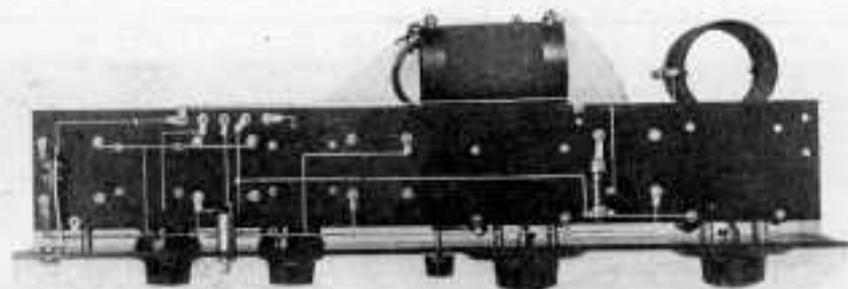

Fig. 4. Here you can see the wires concealed under the tube panel.
with mounting clips for a 2-megohm Daven gridleak two 1 to 4 Modern transformers, a 0.0005 mfd. Dubilier Micadon, and seven Eby or Marshall-Gerken binding posts, two of which are on the antenna and ground terminal strip. Beneath the tube panel there is the 6V-199 Amperite. This can be seen in Fig. 4.
13. Mount the two rheostats on the front panel using the screws provided. Adjust the thumb nuts at the rear so that the knobs turn smoothly. Mount the telephone jack with the frame up and down, as shown in Fig. 4, put the lock switch in place, and fasten a coil mount-